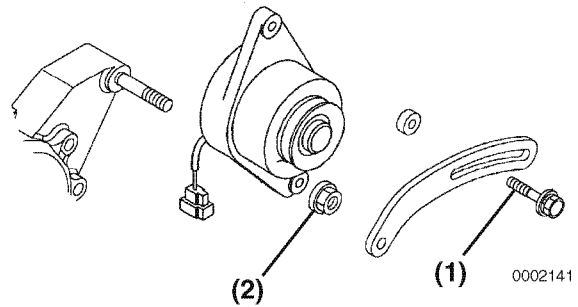

Figure 11-29
1. Position the dynamo on the gear case. Loosely reinstall the nut (Figure 11-29, (2)) on the gear case stud and the V-belt adjuster bolt (Figure 11-29, (1)).